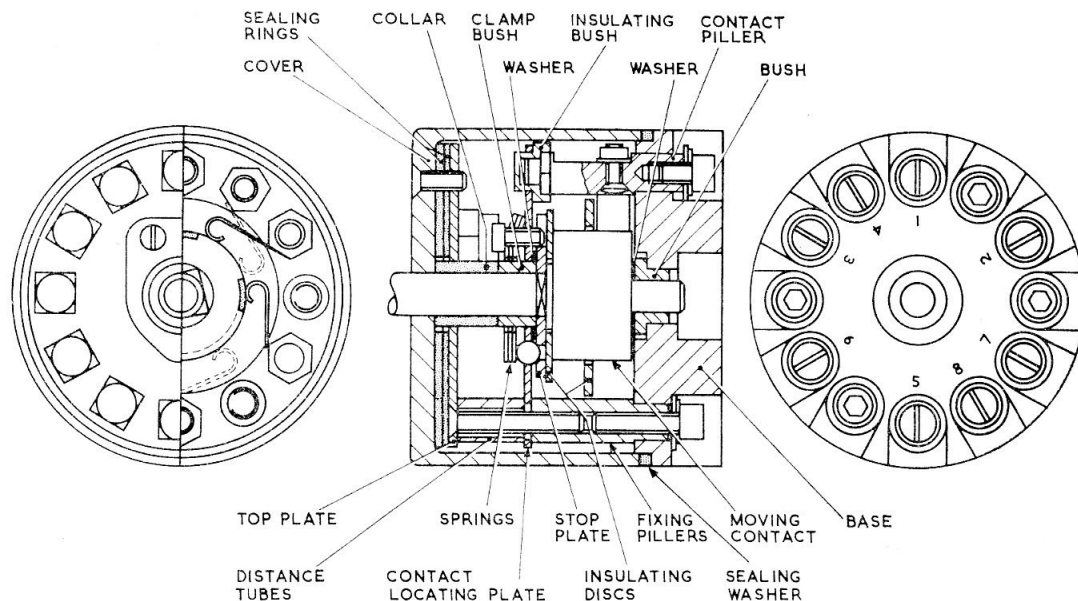

Fig. 1. Sectional view of switch
4. A sectional view of the switch is shown in fig. 1. Both switches are manually operated from the "OFF" position.